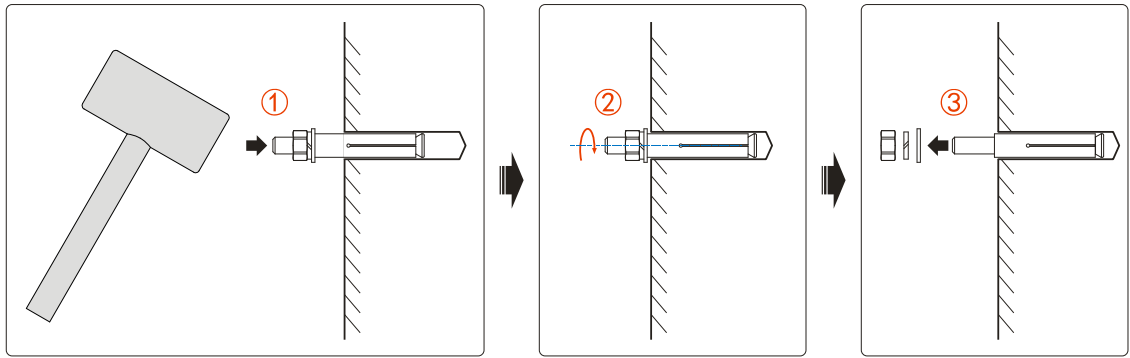

Figure3-22 Expansion bolt installation diagram
- Step 4 Install expansion bolts. Install the four M10*80 expansion bolts in the fitting into the installed holes, as shown in Figure3-22.